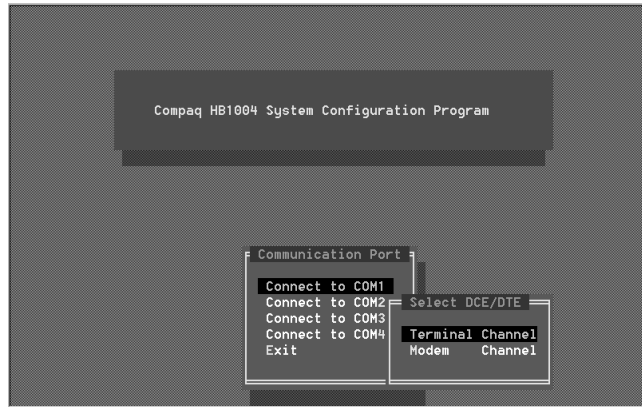

Figure 3-4 DCE/DTE Dialog Box
- Using arrow keys, select the workstation's communication port connected to the hub and press <Enter>. The DCE/DTE dialog box appears as shown in Figure 3-4.